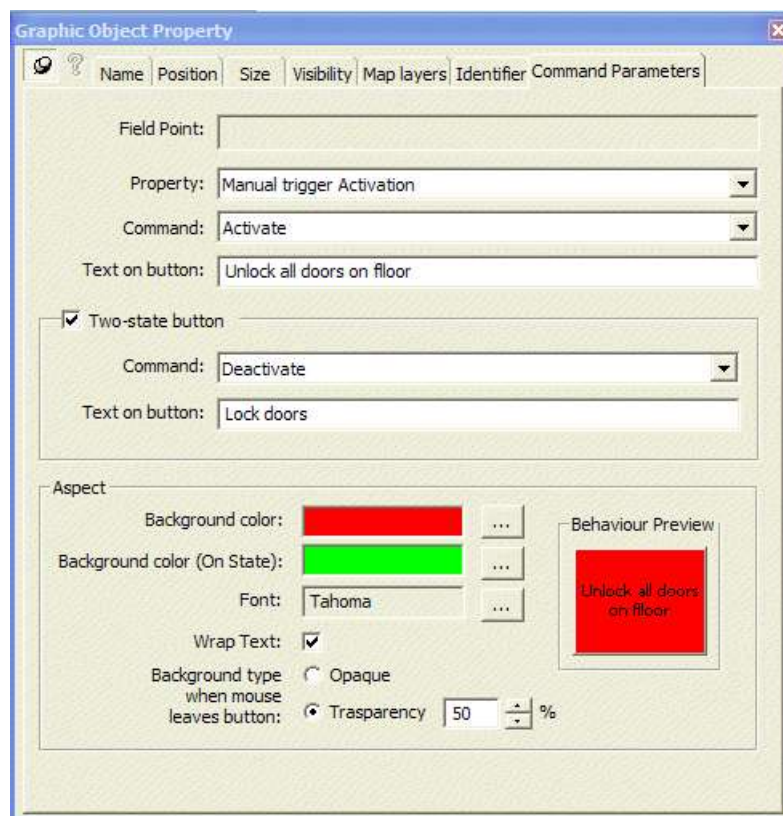

Fig. 18 Graphic Object Property window – Command Parameters tab
- Note:** For lengthy commands, select the 'Wrap Text' check box. (See Fig. 18.)